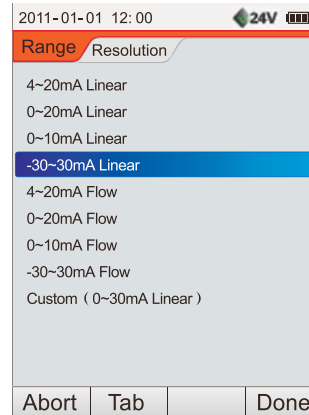

Figure 9.6 Setup of current measure
- 1) Press **F1** to enter the scale range setting interface, as shown in Figure 9.6.